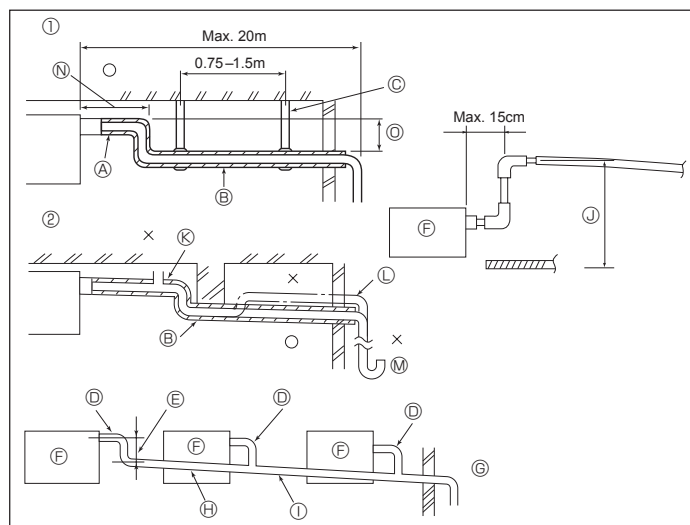

Fig. 3-4
3.3. Drainage piping work (Fig. 3-4)
- ① Correct piping
- ② Wrong piping